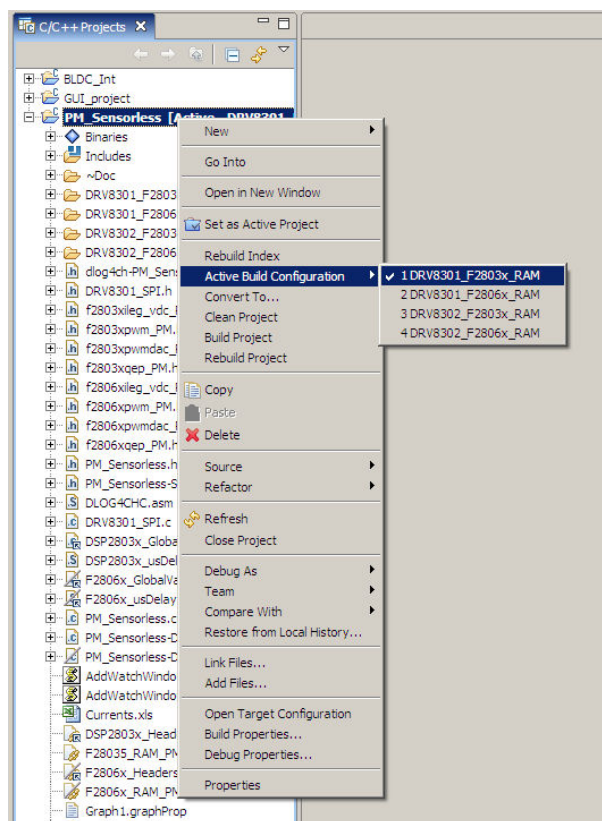

Figure 8 Selecting the DRV8301\_F2803x\_RAM configuration
- Each project has multiple build configurations to support different target MCUs or different DRV83xx base boards. You will need to select the build configuration that matches your hardware setup. As an example Figure 8 shows selection of the DRV8301-HC-EVM with a F2803x MCU. Right-click on an individual project and select Active Build Configuration-> DRV8301\_F2803x\_RAM configuration.